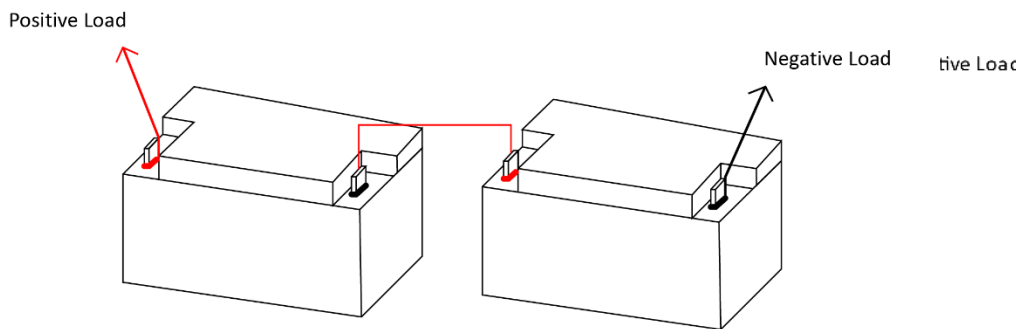
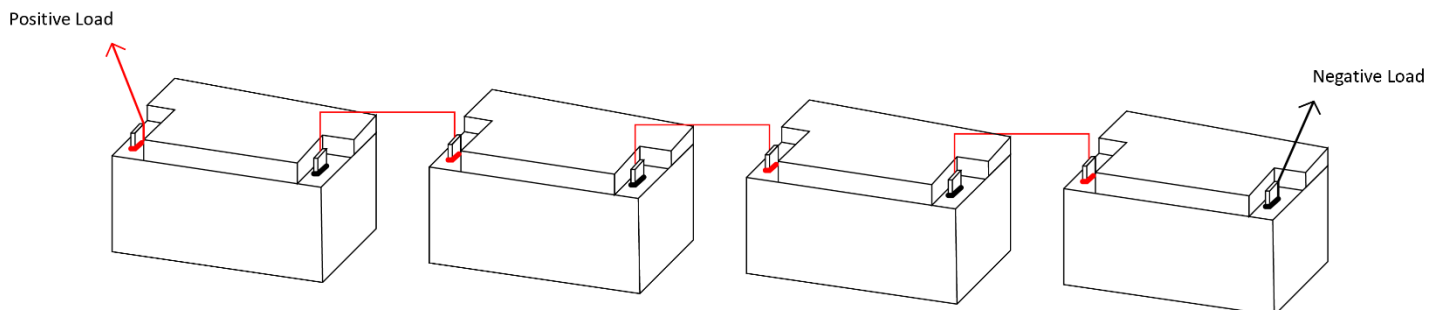

Figure 4.1: Two 1250 Batteries Connected in Series to create a 24V 50Ah Battery Bank
Figure 4.2: Four 1250 Batteries Connected in Series to create a 48V 50Ah Battery Bank
7. Repeat steps 3-6 for additional batteries, but **DO NOT** exceed 48V. An example of a correct series connection can be found below in Fig. 4.1 and Fig. 4.2.